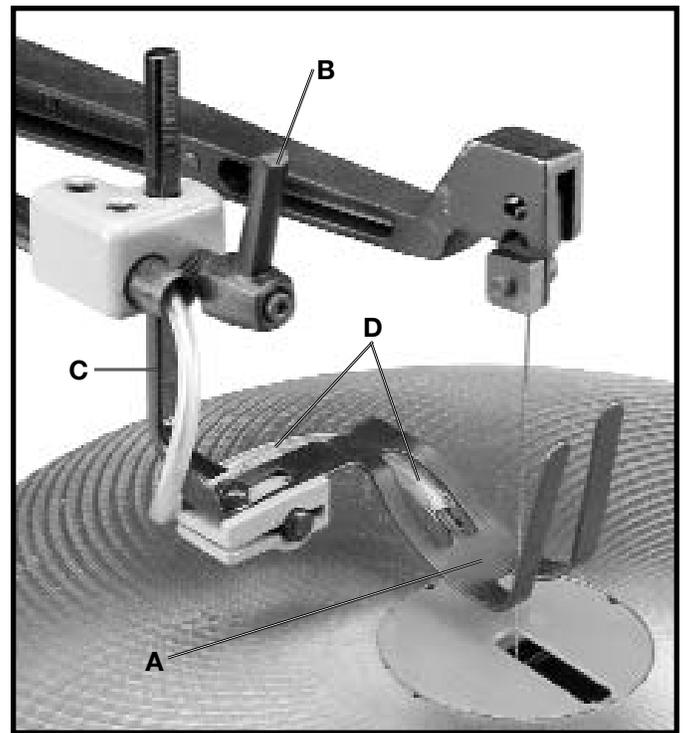

Fig. 24
The bottom of the holddown (A) Fig. 24, should be adjusted so it contacts the top surface of the work being cut by loosening lock handle (B) and moving holddown rod (C) up or down. Then tighten lock handle (B). **NOTE:** Lock handle (B) is spring-loaded and can be repositioned by pulling out handle and repositioning hub of handle on the nut located directly underneath the hub.
A dust blower (D) Fig. 24, is supplied with your saw to direct air to the most effective point on the cutting line. Make sure end of hose (D) is connected to the holddown (A) as shown.